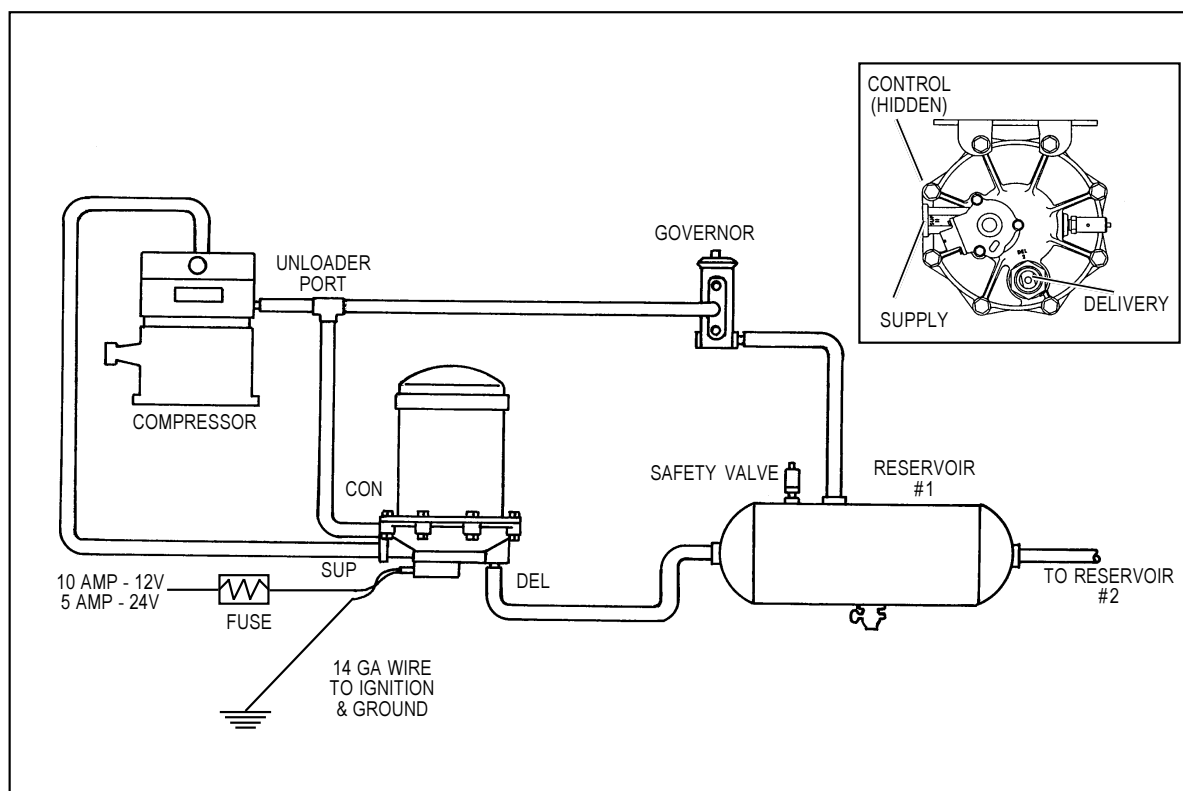

FIGURE 2 - AD-9 CHARGE CYCLE
1. To install the lower mounting bracket on the AD-9 air dryer, it will be necessary to remove and discard two of the end cover bolts and lock nuts. To determine which end cover bolts to utilize to attach the lower bracket, take into consideration the piping connections required to install the AD-9 air dryer and use those that will best position the unit for ease of installation. Locate the bracket such that it cradles the end cover as shown in Figure 2. Utilizing the two 2-3/8" long cap screws, lock nuts and special washers provided with the AD-9 air dryer retrofit unit, attach the lower mounting bracket and torque to 270-385 in. lbs.